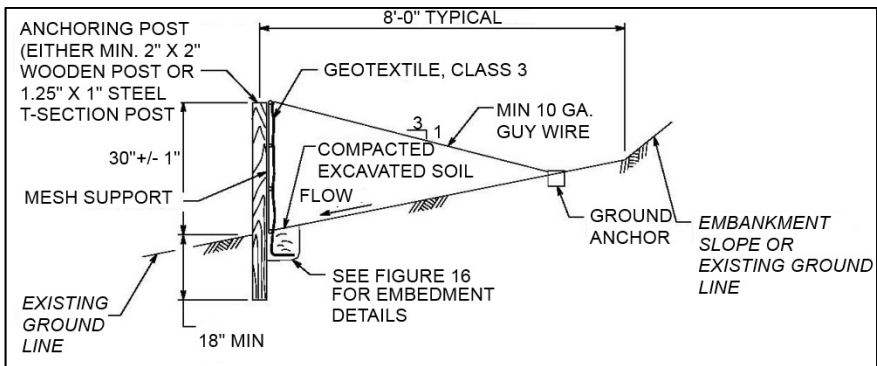

Figure 19: Reinforced Silt Barrier Fence - 30 Inch High
- Wherever reinforced silt barrier fence (**Figure 19**) is installed the reinforcement mesh should be fastened to the stakes prior to the fabric.